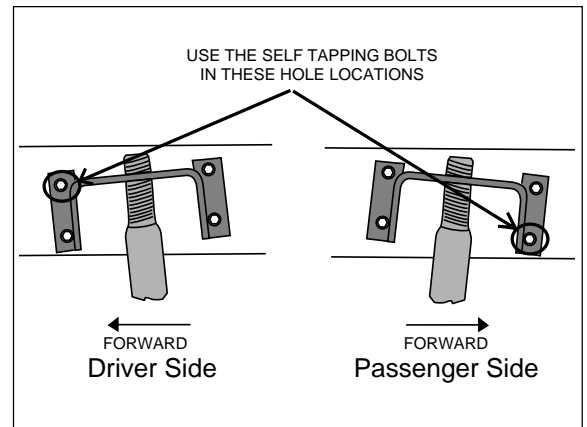

Figure 6
- (1) Centerpunch and drill a $\frac{3}{8}$ " hole through the *forward upper* mounting hole. Insert the $\frac{3}{8}$ " x 4" frame bolt/flat washers/locknut and leave loose. Note: On exhaust side of vehicle it may be necessary to move or trim stock heat shield to gain access to mounting bolts.
- (2) Next centerpunch and drill through the *rear upper* mounting hole. Do not insert the bolt.
- (3) The installation tool can now be removed by removing the upper nylon nut, loosening and removing the tool from the bottom bolt (leave in place), and slightly rotating the upper bracket to give you enough room to completely remove the tool.
- (4) Rotate the upper bracket back to the original location and install the frame bolt, flat washer, and lock nut through the second hole that was drilled. Now tighten both of the installed fasteners to 20 ft–lbs. Centerpunch and drill a third $\frac{3}{8}$ " hole through the *rear lower* mounting hole and insert $\frac{3}{8}$ "-16 x 4" bolt, flat washers and lock nut (Tighten to 20 ft–lbs).
- (5) As shown in Figure 6, a self tapping frame bolt is required in the *forward lower* mounting hole. Drill a $\frac{5}{16}$ " hole, (no larger) insert and tighten the self tapper (15 ft–lbs). Do not overtighten.
- (1) Centerpunch and drill a $\frac{3}{8}$ " hole through the *forward lower* mounting hole. Insert the $\frac{3}{8}$ " x 4" frame bolt/flat washers/locknut and leave loose.
- (2) Next centerpunch and drill through the *rear lower* mounting hole. Do not insert the bolt.
- (3) The installation tool can now be taken out by removing the upper pal nut, loosening and removing the tool from the bottom bolt (leave in place), and slightly rotating the upper bracket to give you enough room to completely remove the tool.
- (4) Rotate the upper bracket back to the original location and install the frame bolt, flat washer, and lock nut through the second hole you drilled. Now tighten both of the installed fasteners to 20 ft–lbs. Centerpunch and drill a third $\frac{3}{8}$ " hole through the *rear upper* mounting hole and insert $\frac{3}{8}$ "-16 x 4" bolt, flat washers and lock nut (Tighten to 20 ft–lbs).
- (5) As shown in Figure 6, a self tapping frame bolt is required in the *forward upper* mounting hole. Drill a $\frac{5}{16}$ " hole, no larger, and insert and tighten the self tapper (15 ft–lbs). *Do not overtighten.*